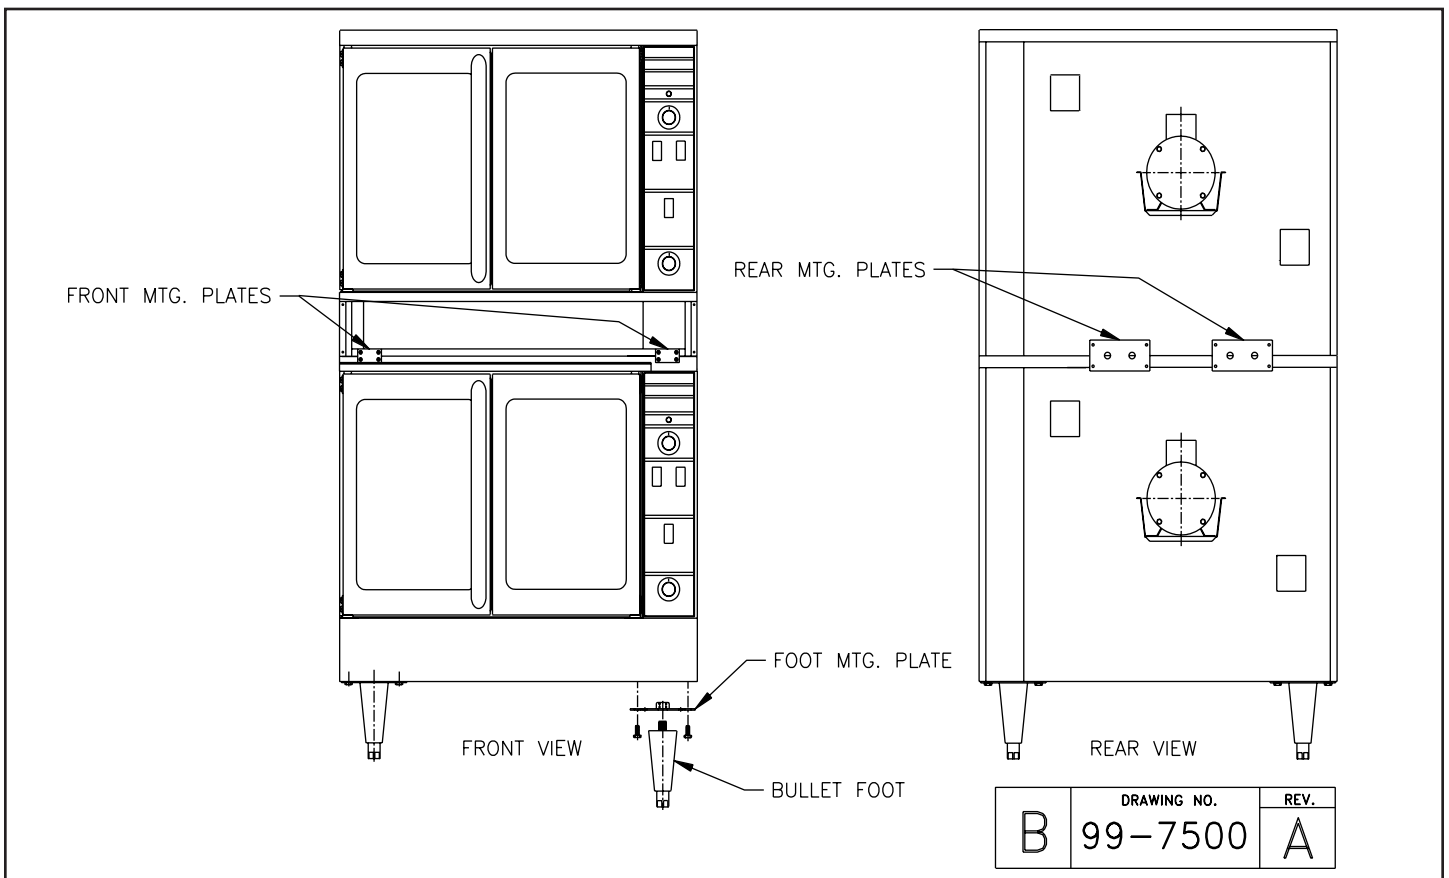

Fig. 2 Stacked Ovens (Model 3092)
3. Bolt down at rear and front as shown in (Fig. 2). Remove top kick plate to access screwing the front bolts.